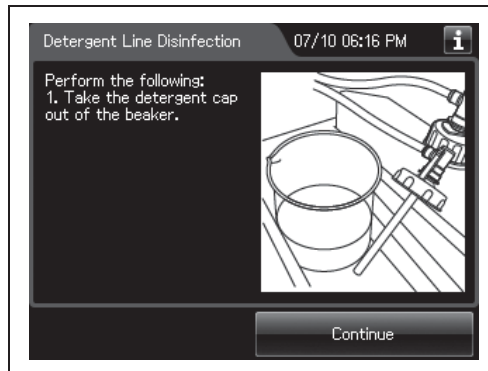

Figure 7.95
- 33** When the touch screen display changes as shown Figure 7.95, take the nozzle of detergent cap out of the beaker.